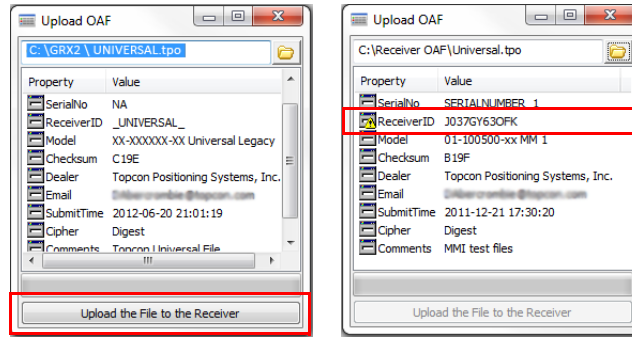
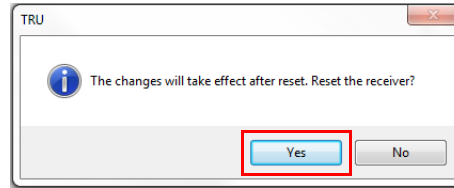

Figure 21: OAF Compatibility Check
Figure 22: Reset the Receiver
5. Press **Upload the File to the Receiver** (Figure 21) to start loading the file. If an OAF file is uploaded to the receiver, SRU will offer to reset the receiver to put new authorization options into operation (Figure 22).